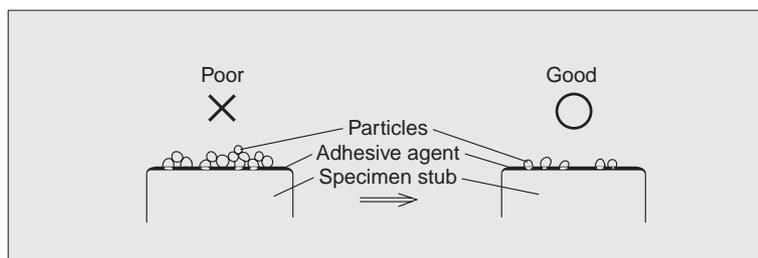

Fig.3 Removing the excess powder.
(4) For a specimen like fine powder, do not accumulate the particles in many layers. Mount the powder on a specimen stub on which an adhesive agent is applied. After the adhesive agent has dried, blow off the loose powder on the specimen stub using an air blower such as a spray (Fig. 3).